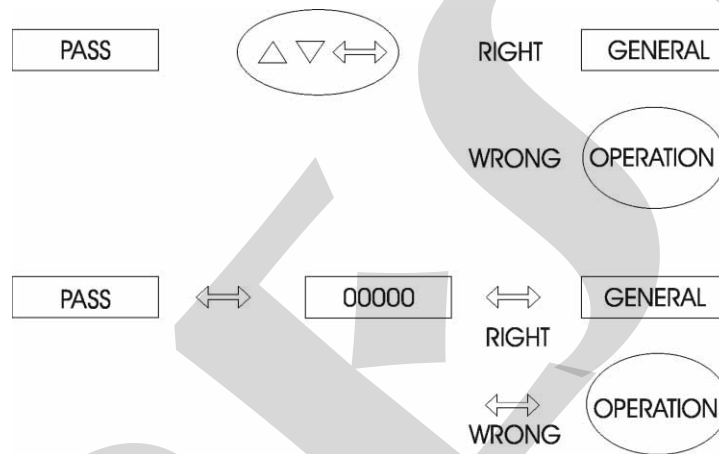

Fig. 11 - Password system
- ii) On indicator display will show the warning PASS, indicating that the instrument has a password system that can be a key or value, as shown in Figure 11.
In the case of password with value the user must press for the second time the ENTER key to display the number 00000 with the last zero flashing. The flashing digit indicates the position where the user will enter a five-digit number password. To move to the other digits of the left press the ENTER key. After entering all digits, press ENTER again to move to level 1 if the password is correct, otherwise back to normal operation (See Figure 11).